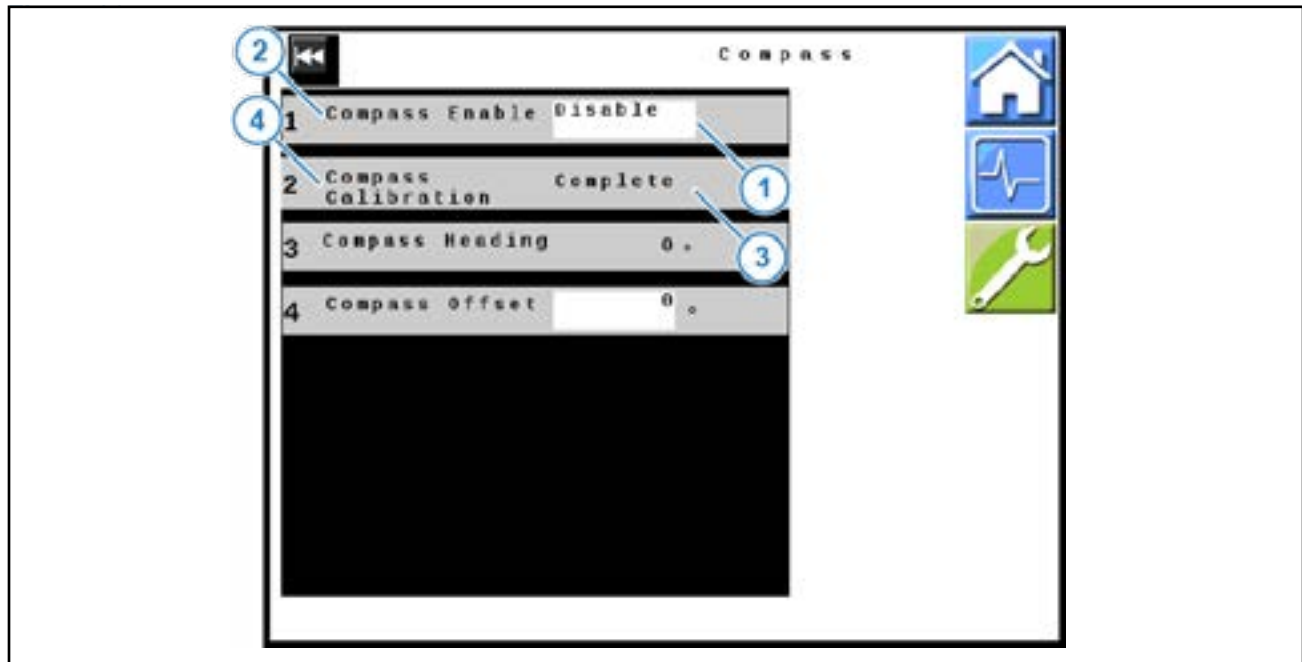

Figure 27: Compass Settings
2. Select the box (Figure 27, Item 1) next to Compass Enable (Figure 27, Item 2).
4. Select the box (Figure 27, Item 3) next to Compass Calibration (Figure 27, Item 4).